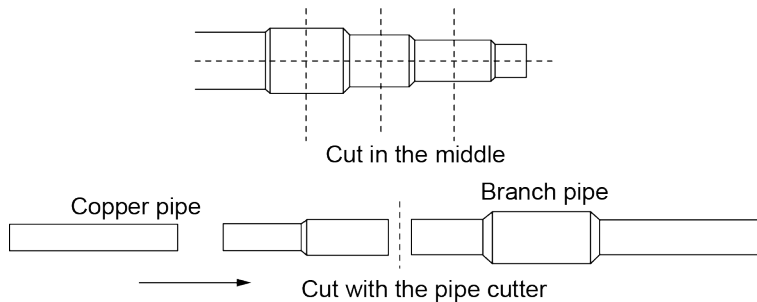

Fig.4.24
(3) Manifold has several pipe sections with different pipe size, which facilitates to match with various copper pipe. Use pipe cutter to cut in the middle of the pipe section with different pipe size. See the Fig.4.24 as below.